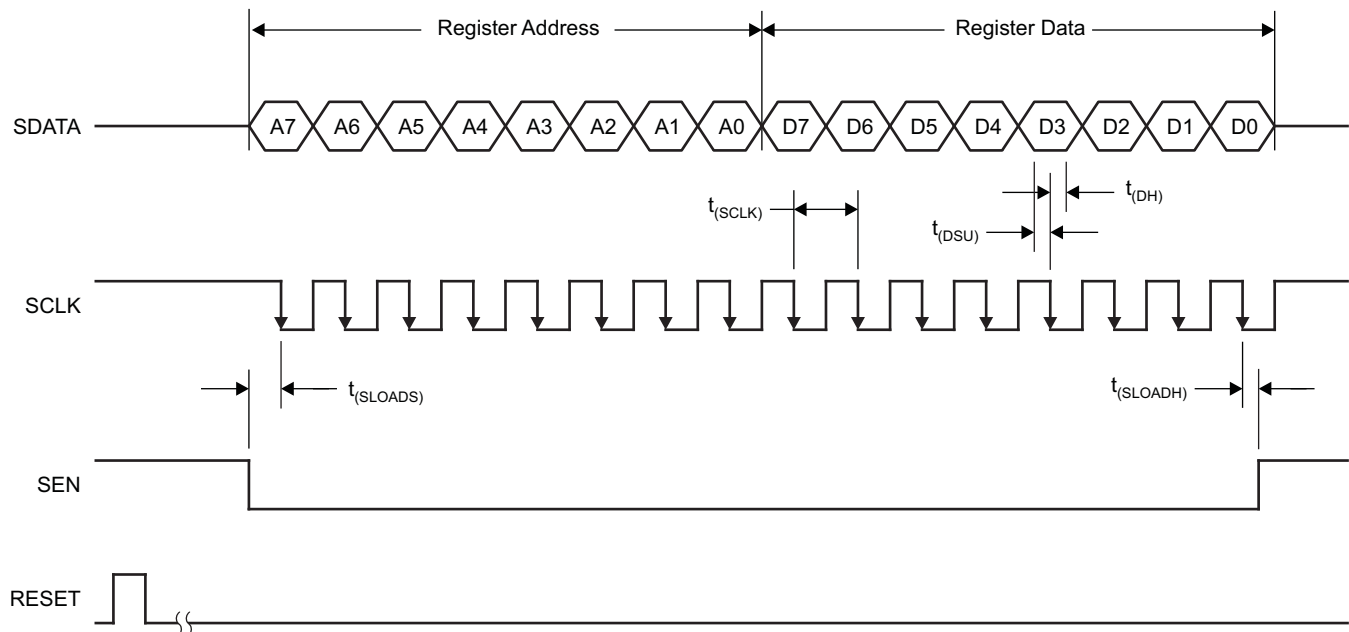

Figure 6. Serial Interface Timing Diagram
1. Either through hardware reset by applying a high-going pulse on RESET pin (of width greater than 10 ns) as shown in Figure 6.